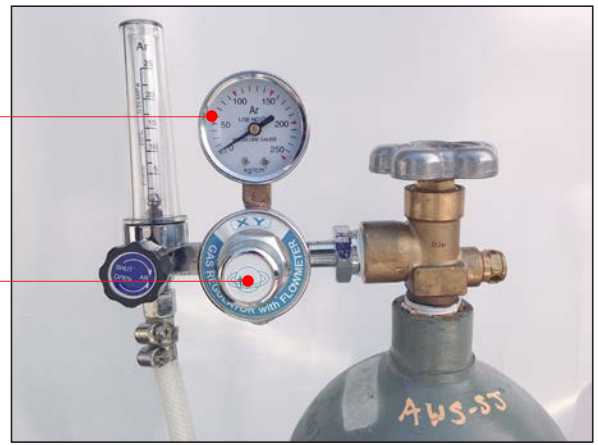

Figure 1.6
2. Connect the machine gas inlet (on the back of the machine, Figure 1.5) to the argon regulator and adjust the knob to set gas pressure between 15 and 20 min/L (an argon regulator is necessary, Figure 1.6.)